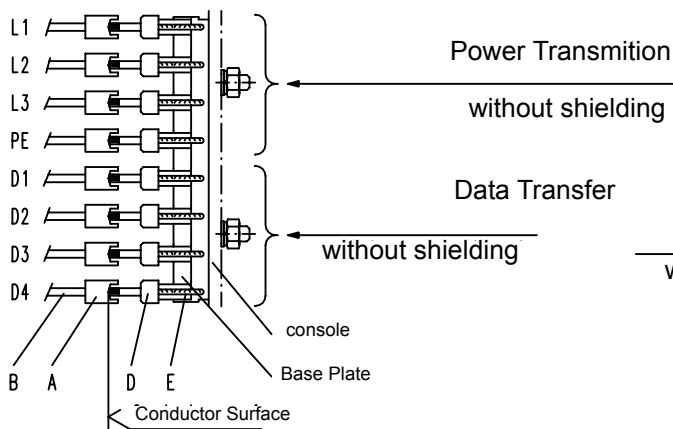

Fig.2 Example 9 poles:
- C Abb. 2 Conductor rail feed cable :
- F Abb. 2 Current collector connecting cable :